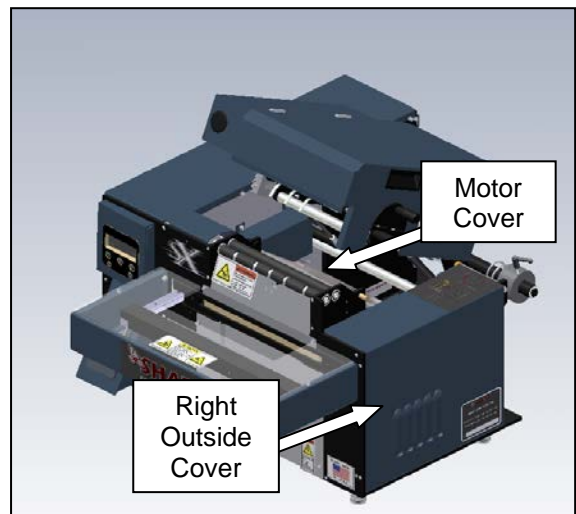

Figure 3-302. Guard Identification
1. Remove the rear motor cover and the right outside cover (Figure 3-302).